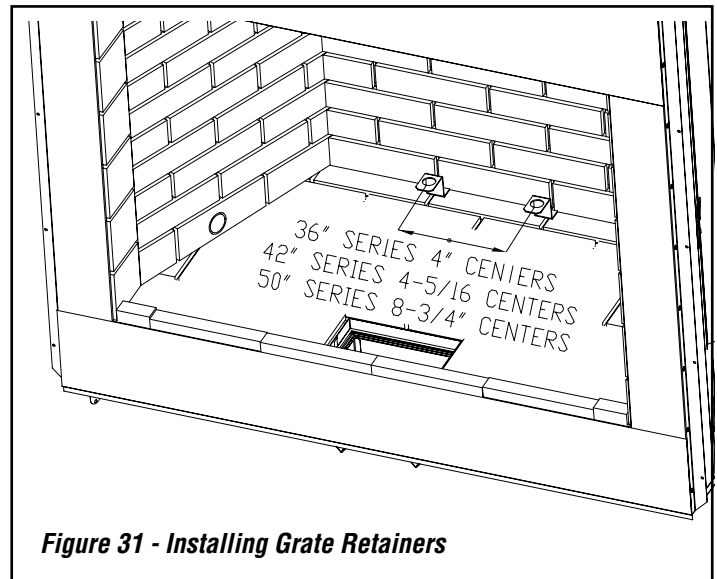

Figure 31 - Installing Grate Retainers
3. Position "Z" shaped grate retaining brackets on top of the notched area toward the rear of the bottom refractory. They should be positioned a distance apart as shown in **Figure 31**.